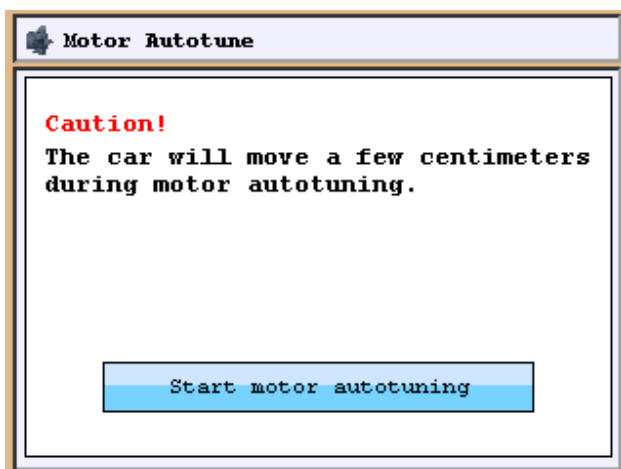

Figure-11b Auto-tune starting screen
- When pressed Enter button Figure-11b appears on the screen. When pressed Enter button again you will see “**Turn the recall switch to INSPECTION position**”